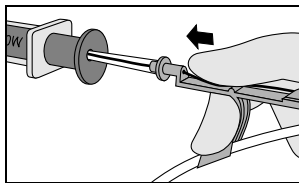

Fig. 4
3. Advance spring-wire guide into syringe approximately 10 cm until it passes through syringe valves (refer to Fig. 4).